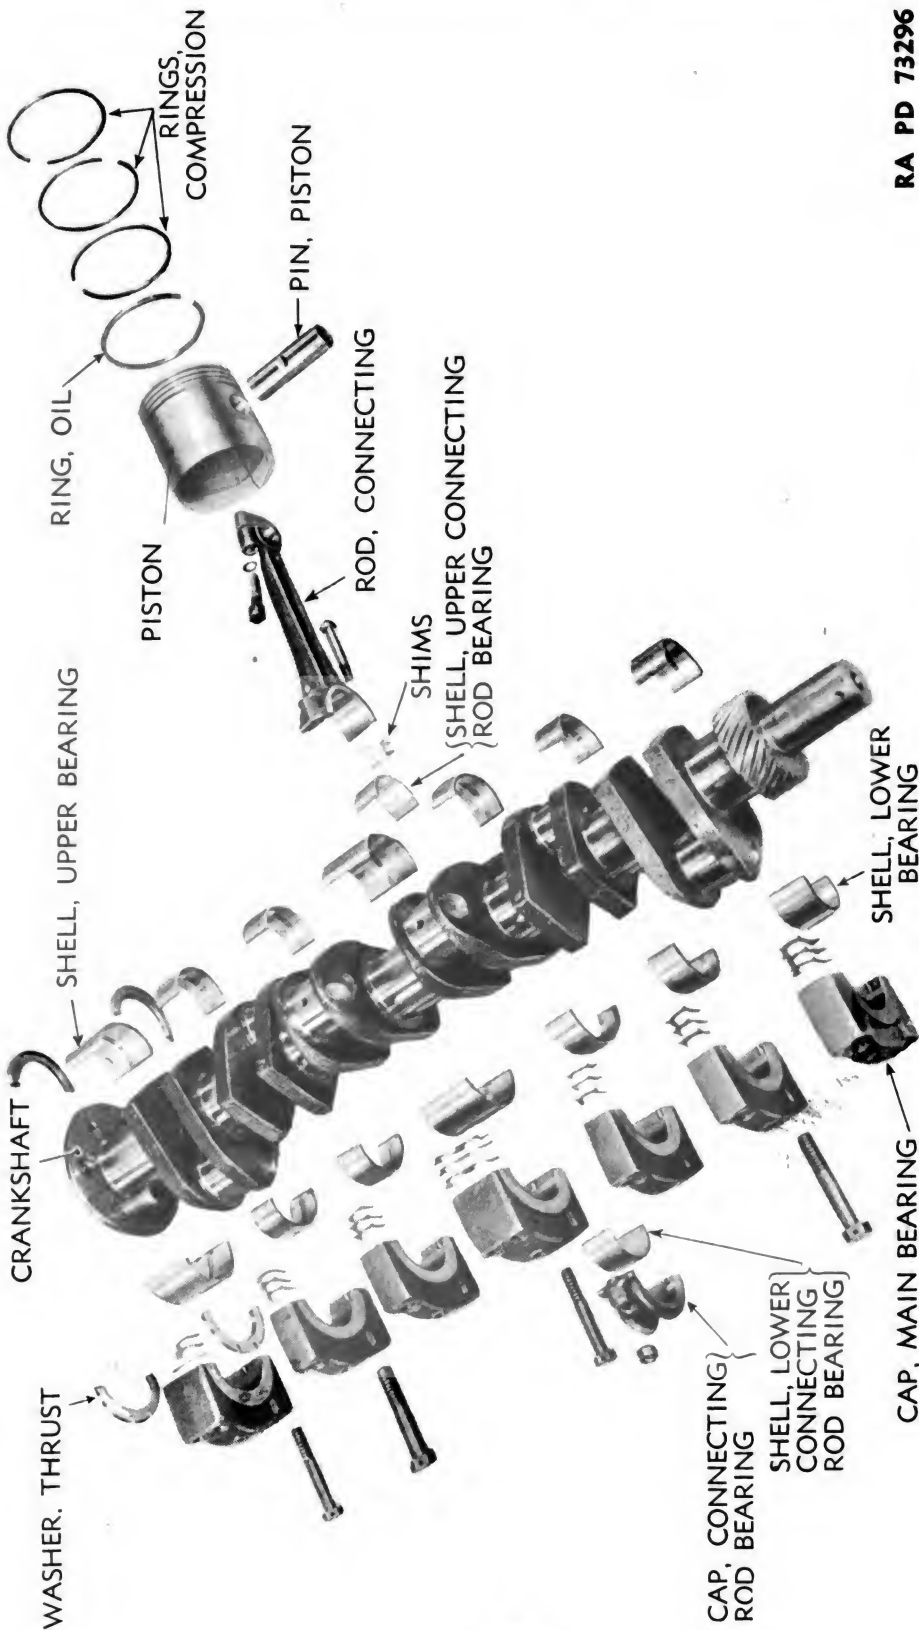

Figure 66 — Crankshaft, Piston and Bearings — Exploded View
24. ASSEMBLY (figs. 66 and 67).